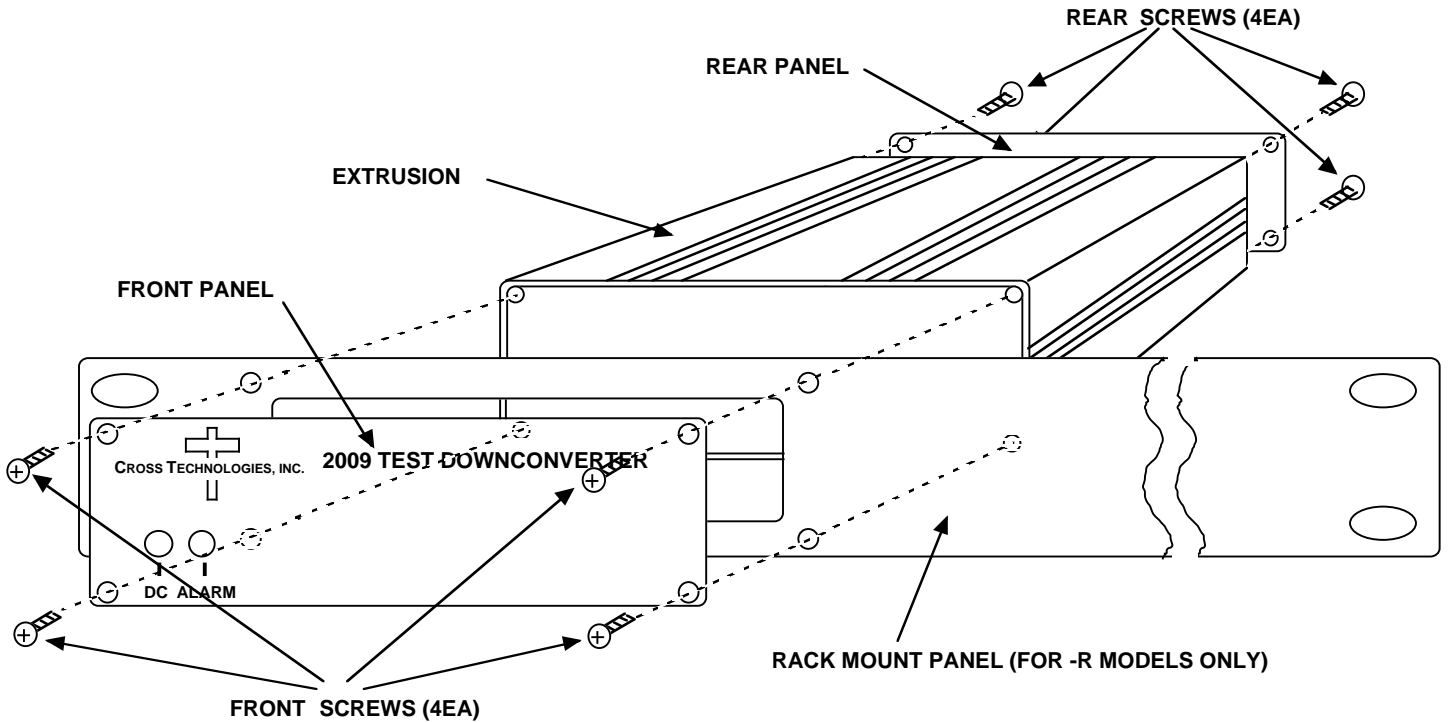

FIGURE 2.1 Model 2009-137 Assembly (-R option shown)
The 2009-137 is packaged in an aluminum extrusion. The **-R option** is mounted on a 1 3/4" X 19" panel that can be mounted to a rack using the 4 holes at the ends (See Figure 2.1).
2. Remove four (4) **rear panel screws** (see Figure 2.1).
5. Install four (4) **rear panel screws**.